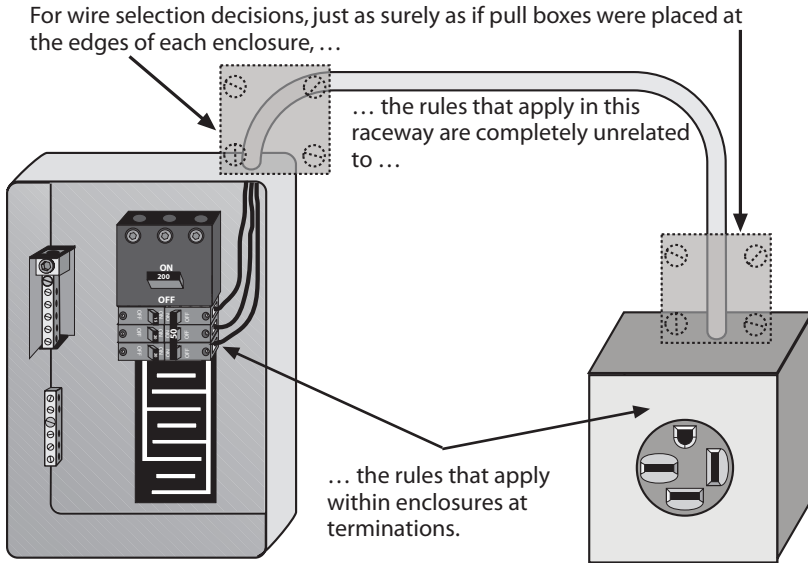

Fig. 26-4 These imaginary pull boxes at each end of the run illustrate how to separate raceway/cable heating calculations from termination calculations.
If you have trouble making this distinction, and many do, apply an imaginary pull box at each end of the run (Fig. 26-4). Actually, with the cost of copper near historic highs, the imaginary pull boxes are becoming real. One large contractor, faced with installing a 300 ft triple run of Type MC cable for a 1200 A feeder, installed three sets of 500 kcmil cable made up with 90°C THHN (ampacity 1290 A) between pull boxes at each end. From each pull box he extended 600 kcmil conductors into the device terminations (75°C ampacity 1260 A). The savings in copper more than paid for the labor and materials expense of providing the pull boxes. Unfortunately, in the name of simplicity, NEC 215.2(A)(1) was reworked in the 2014 cycle in a way that makes a straightforward application of actual pull box transitions like this one problematic unless a sophisticated inspector is willing to make an allowance under 90.4. This issue will be revisited in the